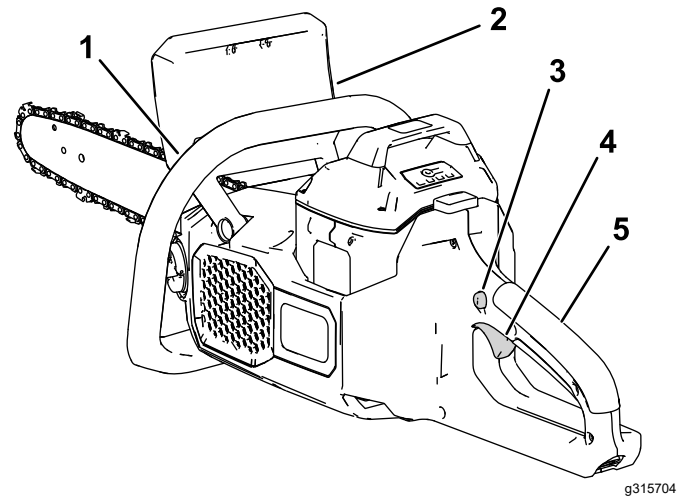

Figure 10
7. With your left hand on the front handle and your right hand on the rear handle, press the trigger lock, then squeeze the trigger (Figure 10).